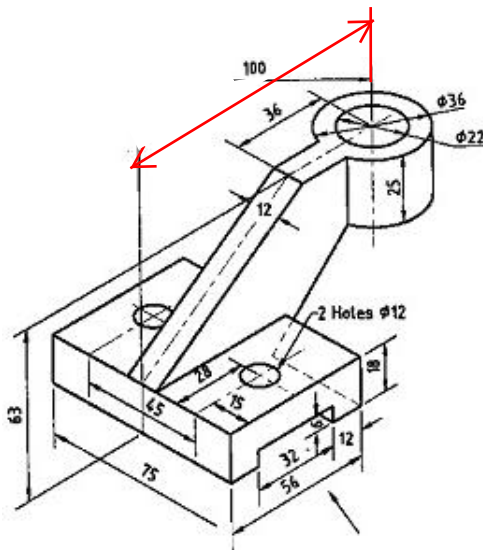

Fig. 9.4
1. Model the component shown in Figure 9.4 using Pro-E Software and view it in wireframe and Isometric Views.